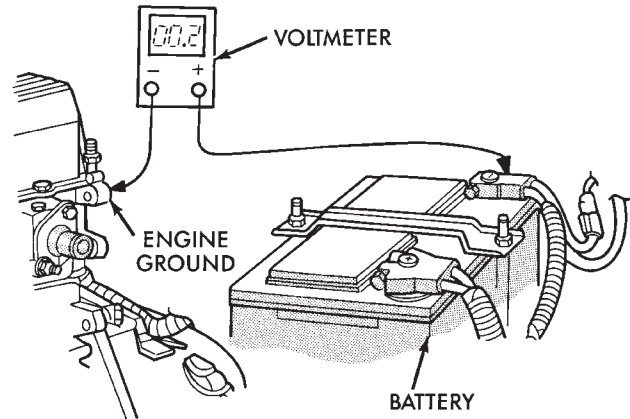

Fig. 5 Test Ground Circuit Resistance
(4) Rotate and hold the ignition with (key) in the START position. If voltage reads above 0.2 volt, correct poor contact at battery cable to solenoid connection. If reading is still above 0.2 volt, replace positive battery cable.
(5) Connect the voltmeter to measure between the battery negative post and the engine block (Fig. 5).